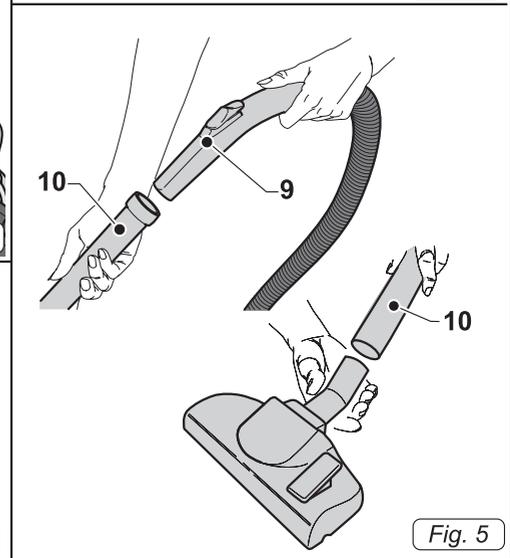

Fig. 5
- Attach the hose extension (10 Fig. 5) to the ergonomic handle (9 Fig. 5).